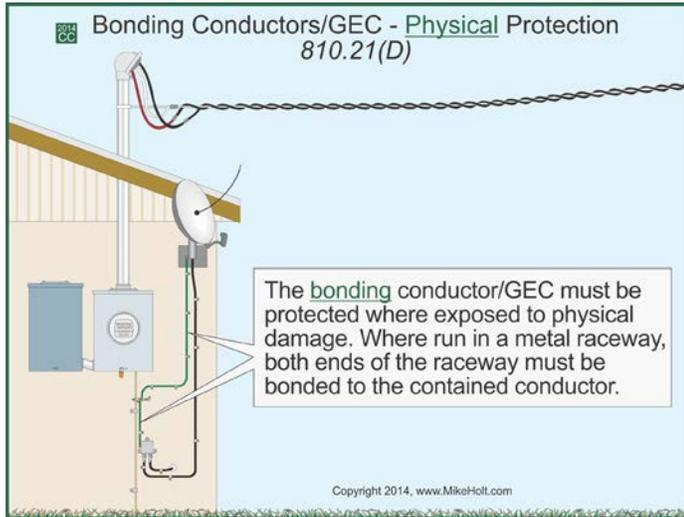

Figure 810-12
**(B) Insulation.** Insulated, covered, or bare.
**(C) Supports.** The bonding conductor or grounding electrode conductor must be securely fastened in place.
**(D) Physical Protection.** Bonding conductors or grounding electrode conductors must be mechanically protected where subject to physical damage, and where installed in a metal raceway, both ends of the raceway must be bonded to the bonding conductor or grounding electrode conductor. Figure 810-12